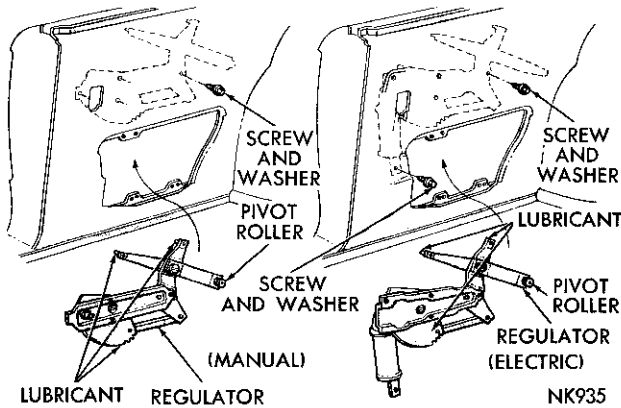
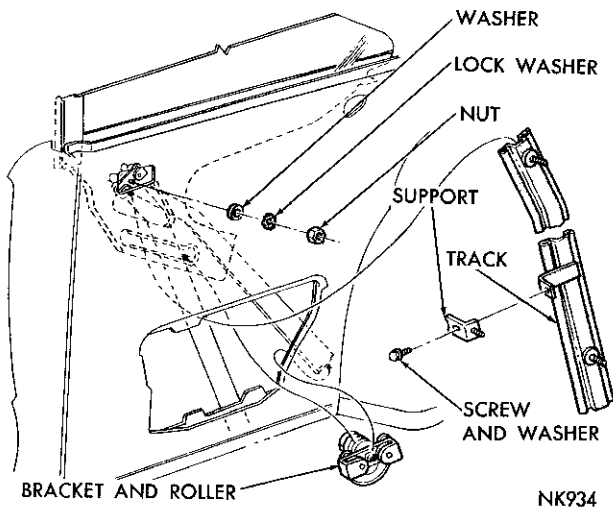

Fig. 98—Quarter Window Regulator (Chrysler—Hard Top)
Fig. 99—Quarter Window Front Track (Chrysler—Hard Top)
The regulator assembly (Fig. 98) is attached to the inner panel with screw and washer assemblies. The regulator arm studs are retained in the glass lower frame rollers with spring nuts (Fig. 99). Lubricate the regulator tooth contact area approximately 1/2 inch wide along the entire length of the arc on the outboard side of the sector and to the front and rear arm roller window touches lightly on the cats whiskers. studs.
- (1) Remove the regulator handle, trim panel and watershield.
- (2) Remove the nut and washers attaching the track to the belt line (Fig. 99).